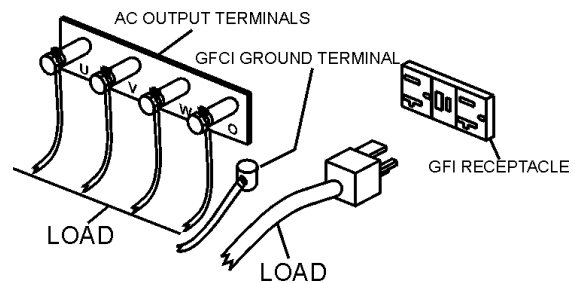

Figure 39. UVW Terminal Lugs (Load)
2. Connect the load to the UVW terminals as shown in Figure 39. These terminals can be found on the output terminal panel, (see page 22, Figure 7). To gain access to the output terminals lift the UVW cover. Tighten terminal nuts securely to prevent load wires from slipping out.